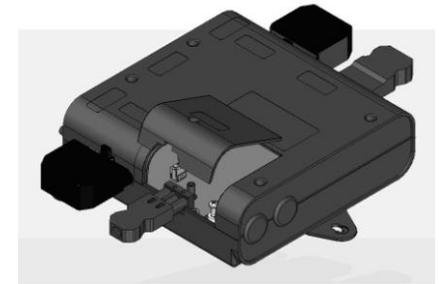

Figure 1.3
- 3) Remove service cover using a Phillips screwdriver. Loosen the cord grip and feed supply cable and control cable (where applicable) through the cable entry and cord grip. Terminate the cables ensuring the terminal screws are sufficiently tightened. Tighten the cord grip ensuring the cable is positively retained. Do not over tighten the cord grip as it may cause damage to the cable. (Figure 1.3)